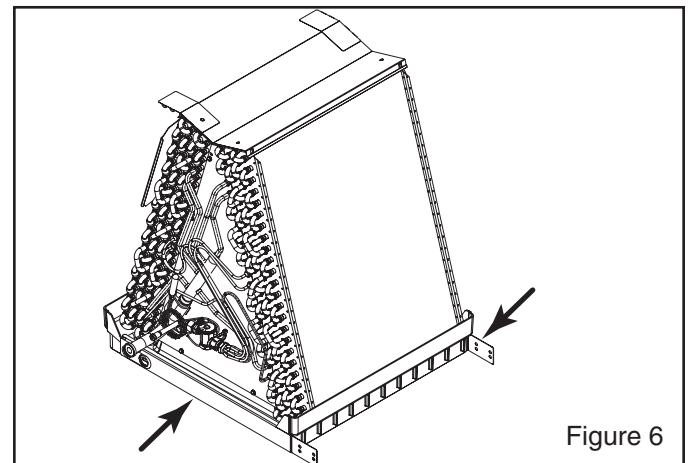

Figure 6
2. Install two (2) small brackets, each on the front and rear side bottom of the coil assembly. See Figure 6.